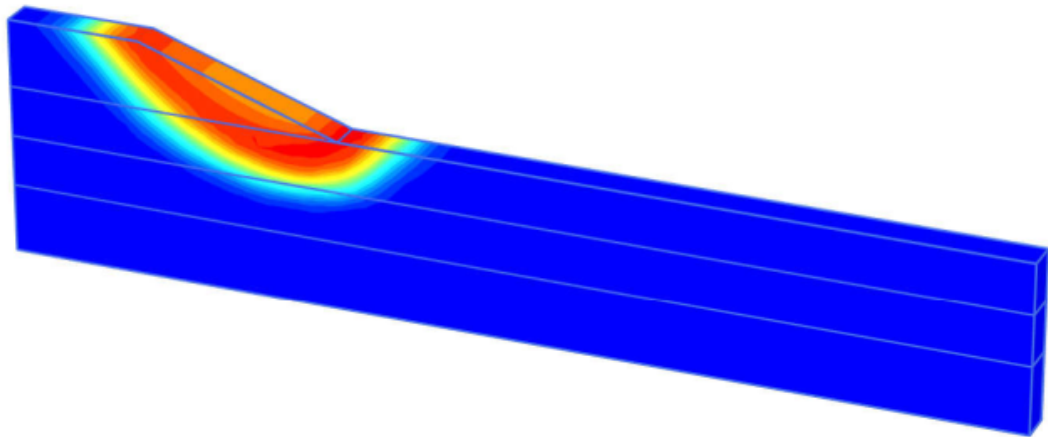

Figure 6-16: Shadings of the total displacement increments indicating the most applicable failure mechanism of the embankment in the final stage
3.  Change the presentation from **Arrows** to **Shadings**. The resulting plots give a good impression of the failure mechanisms (see Figure 6-16 \(p. 129\)). The magnitude of the displacement increments is not relevant.